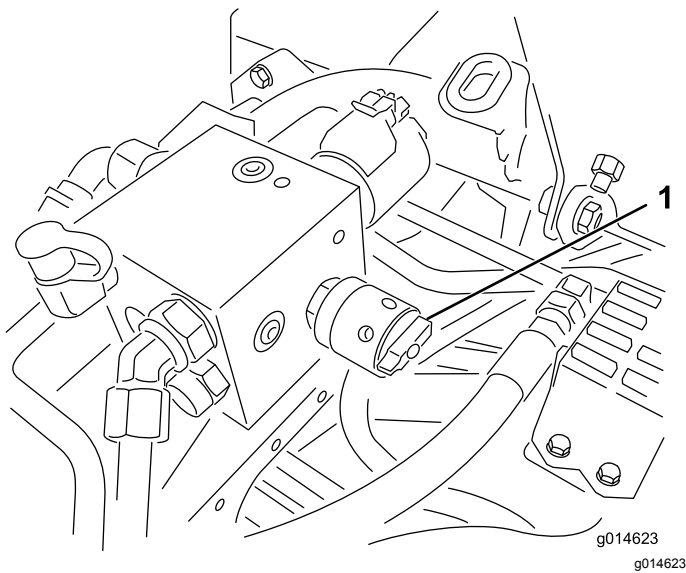

Figure 52
4. Adjust the reel speed by rotating the knob (Figure 52) until the indicator arrows are in line with the number you determined in step 3.
6. Rotate the reel-speed control to setting 1 (Figure 52).